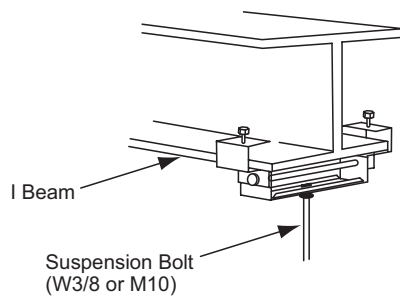

Fig. 4.4 Mounting the Suspension Bolts
- (4) Check to ensure that the ceiling is horizontally level, otherwise drainage can not flow.
- (5) Strengthen the opening parts of the false ceiling.
- (6) Mount suspension bolts, as shown in Fig. 4.4.
- (7) Strengthen suspension bolts with support plates as required in preparation for an earthquake.